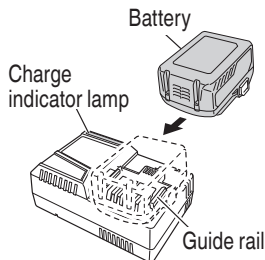

Fig. 9
2. Insert the battery to the battery charger. Firmly Insert the battery into the battery charger as shown in Fig. 9.